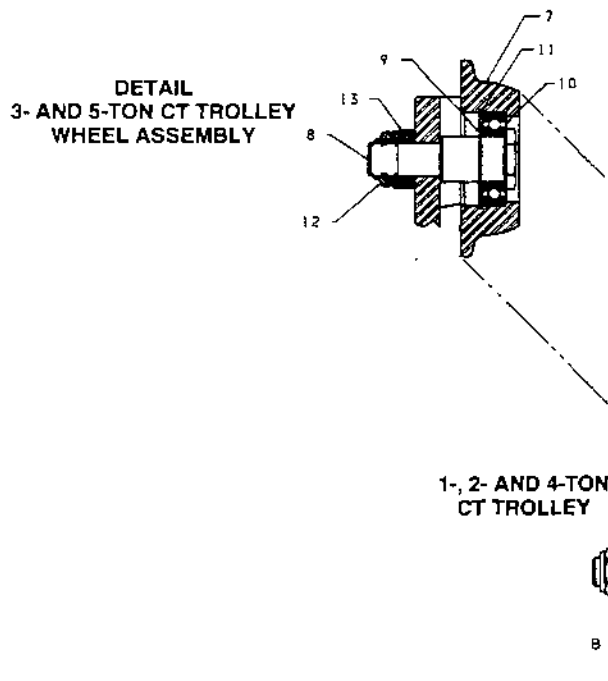

FIGURE 2-1. COFFING CT TROLLEY
- See Figure 2-1 for instructions on adjusting lug-mounted plain trolleys.
- "I"-Beam Adjustment.** Adjustment for "I" beam sizes and tolerances is accomplished by locating the spacer washers as shown in Figure 2-1. Normal placement of washers is given in Table 2-2. Refer to Table 2-1 for identification of part names and numbers.